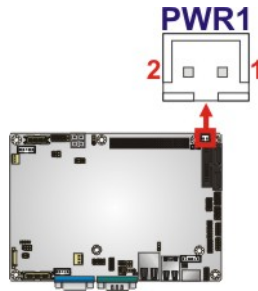

Figure 3-19: SATA Power Connector Locations
- CN Location:** See **Figure 3-19**